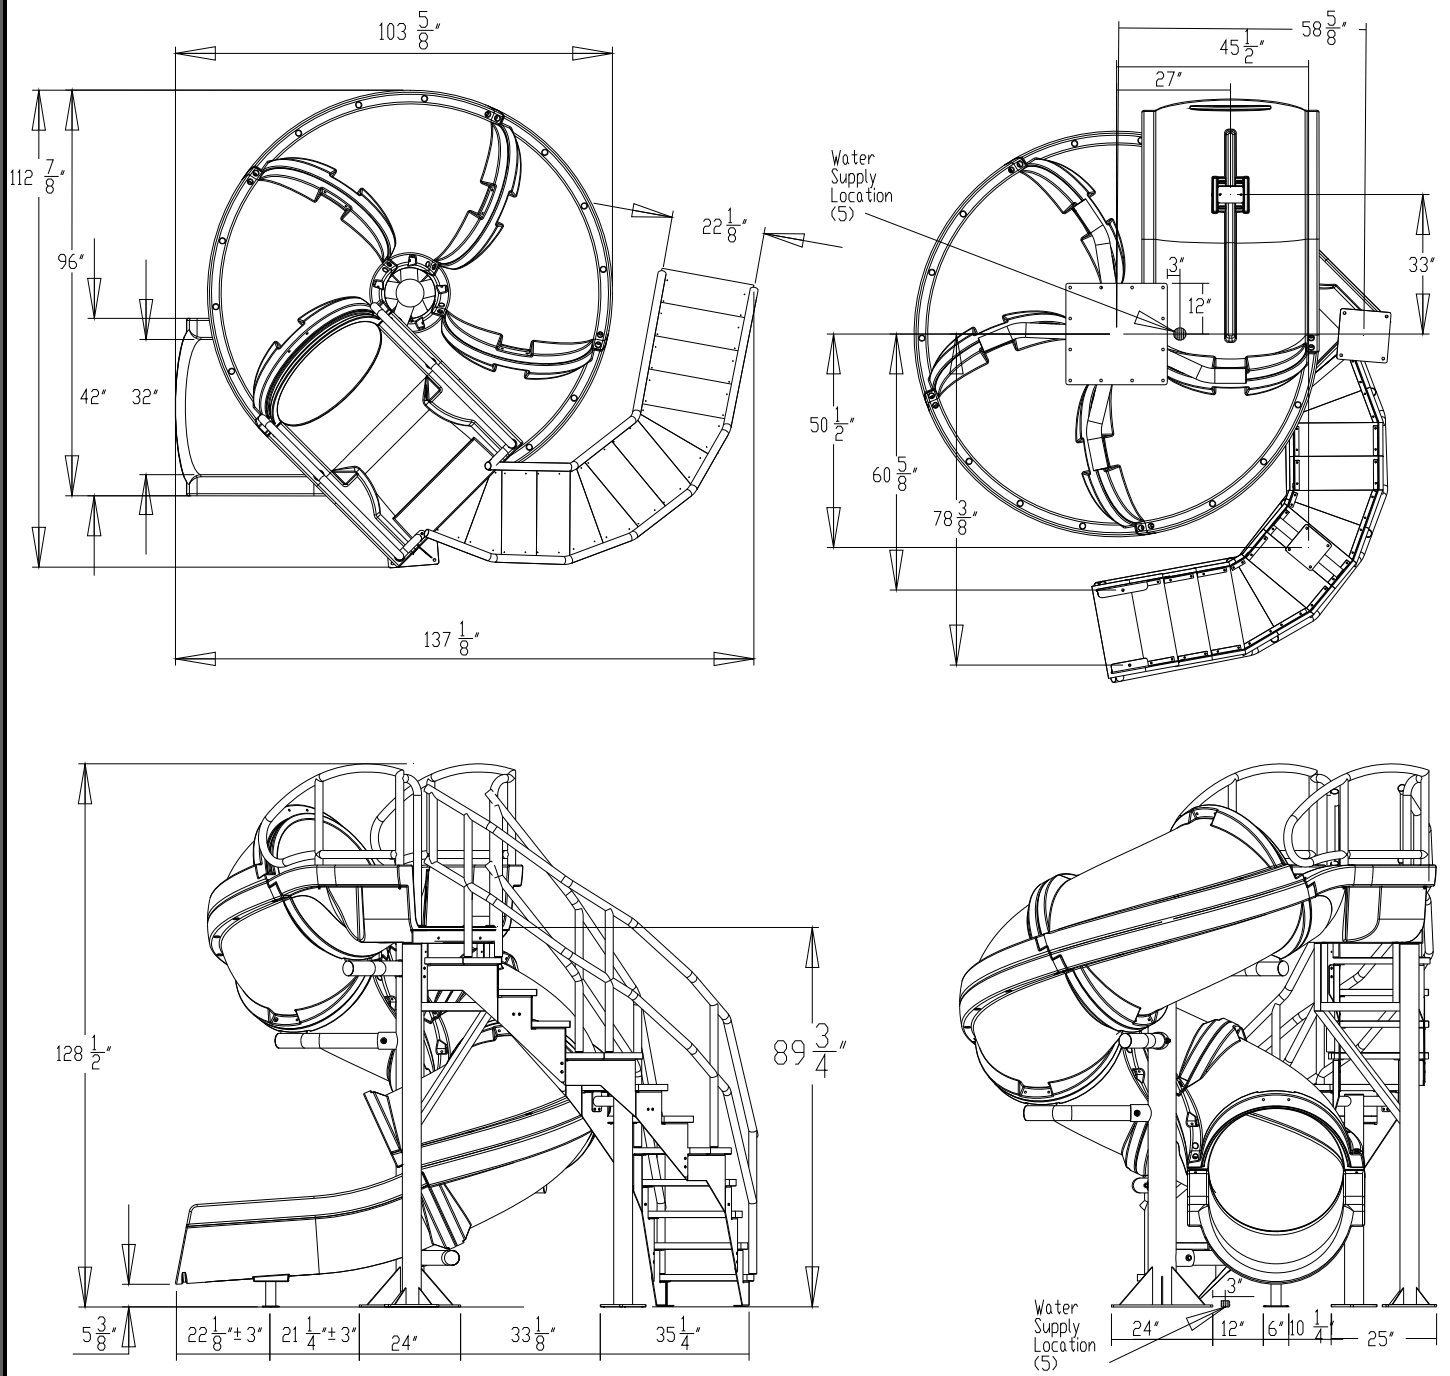

FIG. 1
1) First, insert all five of the Branch Arms (4) into the Main Support (5). Ensure that the arms slide into the support sockets without damaging the powder coating. Align the holes in the main tube support with the holes in the branch arm and attach using the hardware shown in Figure 1. The required hardware is as follows: $\frac{1}{2}$ " – 13 x 5" Hex Head Cap Screw (15), $\frac{1}{2}$ " Flat Washer (17), $\frac{1}{2}$ " Nylon Washer (22), and $\frac{1}{2}$ " Nylon Washer (22), $\frac{1}{2}$ " Flat Washer (17), $\frac{1}{2}$ " Lock Washer (18), $\frac{1}{2}$ " Hex Nut (20) on the other side of the support. **It is important not to tighten the hardware at this point.**